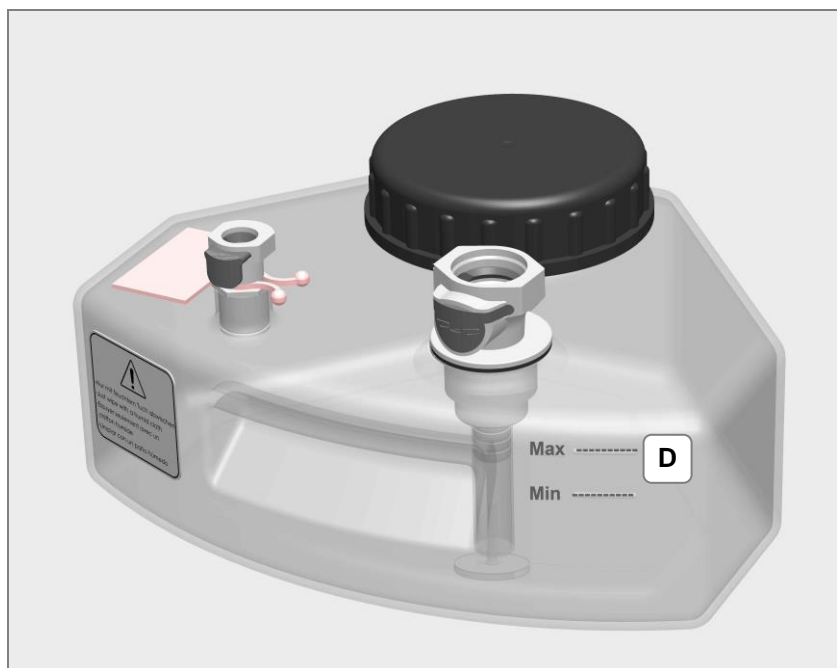

Fig. 9.1.1.1 Media tanks filling level markings
**Inspection criteria** Visually inspect whether the filling level of the different media tanks is in the range between the Min and Max markings (Fig. 9.1.1.1.D).